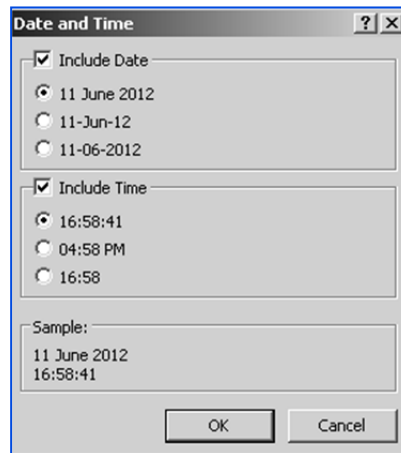

Fig. 2.2.3: Date and Time window
2. Select the *Date & Time* control  from *Design ribbon* -> *Header/Footer* tab. The *Date and Time* window appears, as shown in Fig. 2.2.3 select the date & time format from this window.